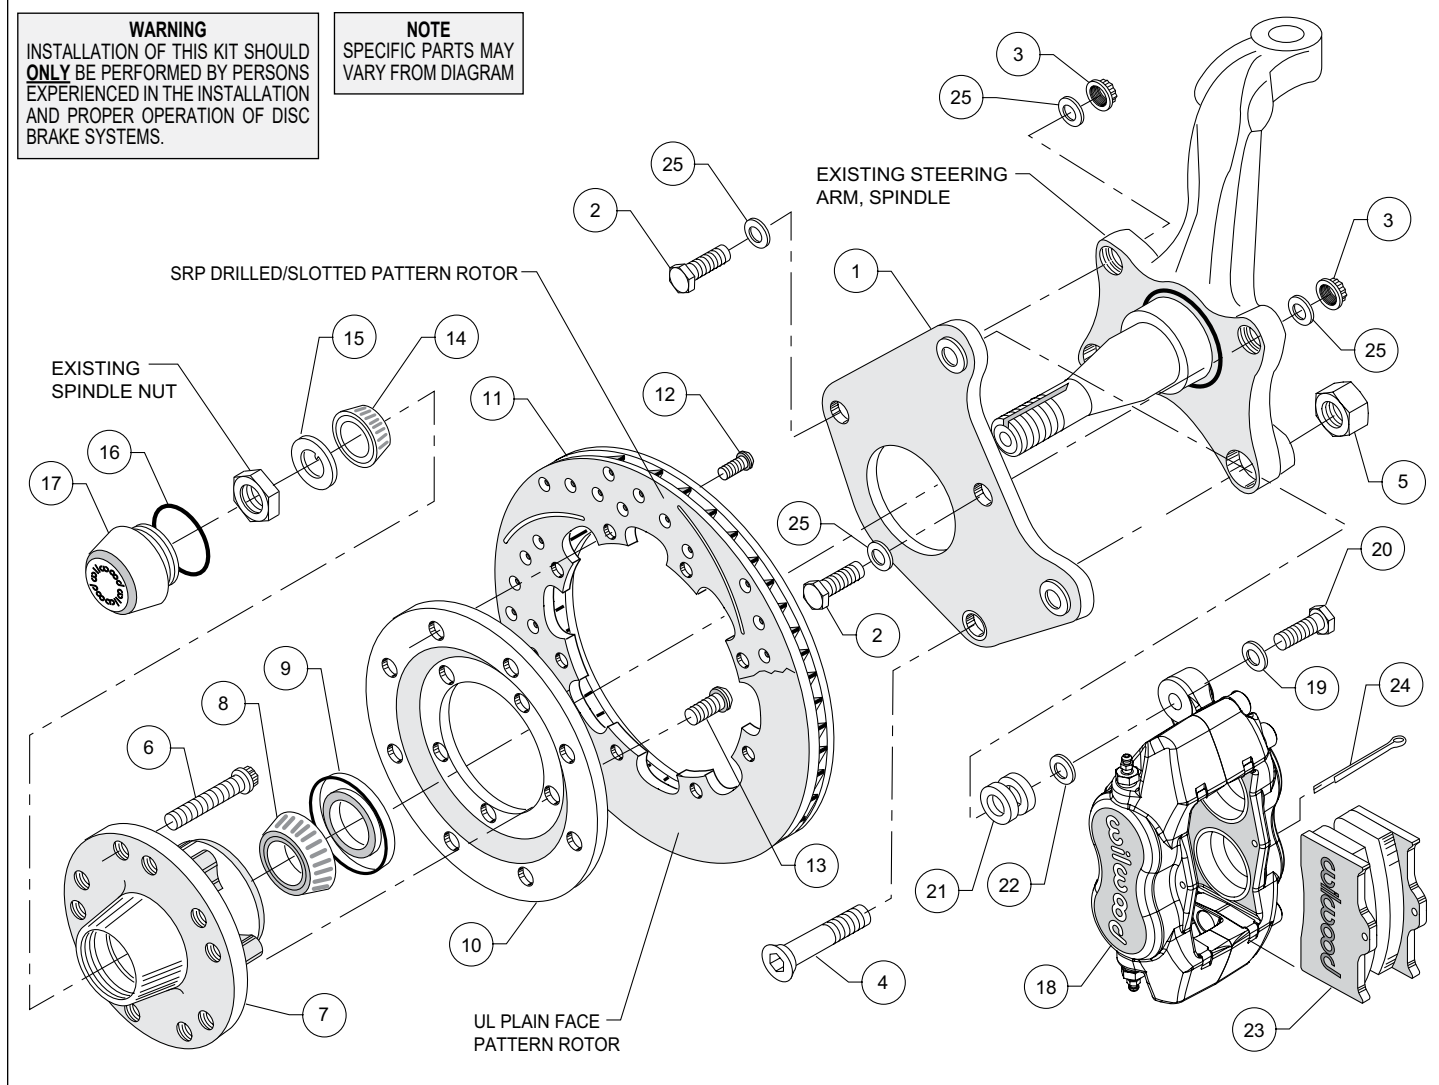

Figure 1. Typical Installation Configuration
NOTE: Numbers in parenthesis refer to the parts list and Figure 1 on the preceding pages.
- Apply red *Loctite*® 271 to bolt threads (2 and 4) before assembly of the caliper bracket (1) to backing plate face of spindle. Then install bolt (4) through caliper bracket (1), spindle face and the steering arm. Finger tighten the bolt (4) with lock nut (5). Install and finger tighten two bolts (2) with lock nuts (3). Torque two lock nuts (3) to 47 ft-lb. Torque lock nut (5) to 140 ft-lb. **NOTE:** Be sure the heads of the caliper bracket (1) insert nuts are facing outward toward the wheel.
- Install five new wheel studs (6) into the hub (7). Torque to 77 ft-lb. **NOTE:** There are two five lug patterns in the hub (5 x 4.50 and 5 x 4.75). Make sure of the correct hole pattern for the correct wheel application before installing studs into hub.
- Pack the large inner bearing cone (8) with high temperature disc brake bearing grease (available from your local auto parts store) and install into the backside of the hub (7).
- Install the grease seal (9) by pressing into the backside of the hub (7).
- Orient the rotor (11) and the rotor adapter (10) as shown in Figure 1. Attach the rotor to the adapter using bolts (12). Apply red *Loctite*® 271 to the bolt threads and torque to 25 ft-lb using a criss-cross pattern.
- Mount the adapter/rotor assembly (10/11) to the hub (7) using bolts (13), as shown in Figure 1. Apply red *Loctite*® 271 to the bolt threads and torque to 45 ft-lb using a criss-cross pattern.
- Pack the small outer bearing cone (14) with high temperature disc brake bearing grease. Lightly coat the spindle bearing surfaces with bearing grease. Slide the hub/rotor assembly (7 and 11) with outer bearing cone (14) onto the spindle. Secure using spindle washer (15), existing adjusting nut and nut locking device. Adjust bearings per OEM manufacturer specifications.
- Install the dust cap (16) onto the hub (7). Friction created by the o-ring (17) on the dust cap (16) keeps it from unscrewing. The O.D. of the existing spindle washer may be larger than the I.D. of the dust cap (16) which may allow the washer to contact the dust cap (16). Use the spindle washer (15) supplied with the kit instead of the stock washer.